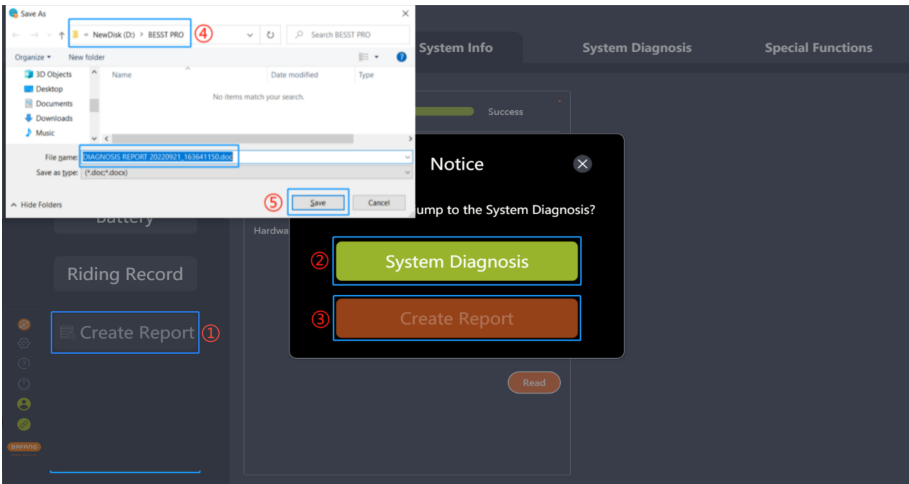

Fig 6-5 Create Report in the System Info
1. Click "Create Report", and a pop-up window will prompt "Do you want to jump to System Diagnosis?" (Figure 6-5).